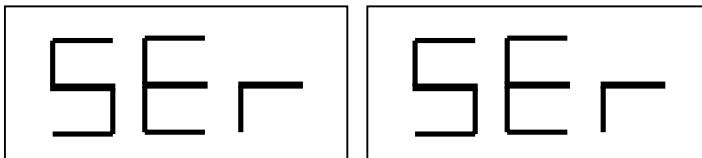

Fig. F9.2 Selection of the Lead balancing weights
*if Lead has been selected as material, at every machine start-up, a message indicating the selection of this material will appear for one second after the initial test. See figure F9.2. This signal will not be viewed if Iron/Zinc is selected as material.*